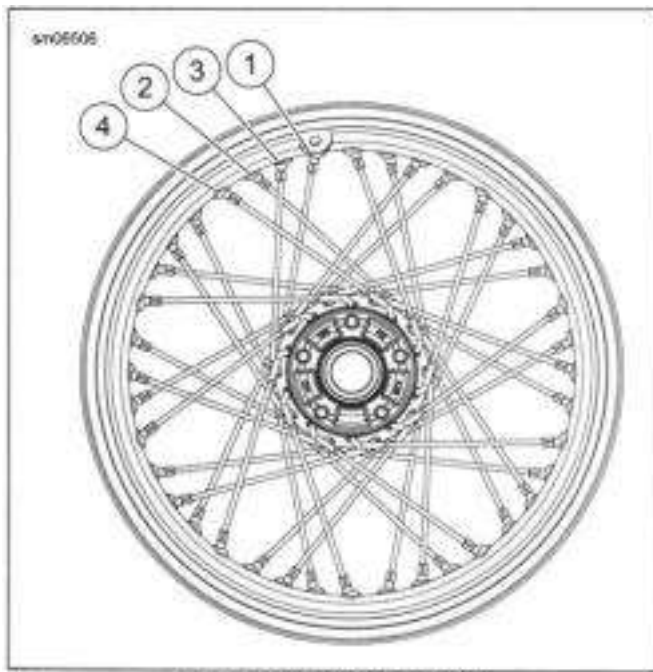

Figure 3-11. Side Valve Rim
- Rim with side valve hole:** See Figure 3-11. Start at the valve stem hole (1).